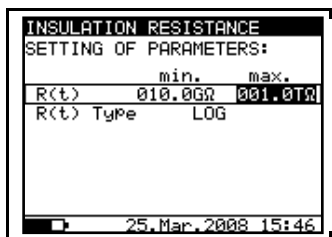

Fig. 15. Set-up menu of the Graph $R(t)$
- Press the **SELECT** key to Set-up the parameters of the **graph R(t)**, see the **Fig. 15**. Press the **ESC** key to return to basic Set-up menu in the **Insulation Resistance** function.